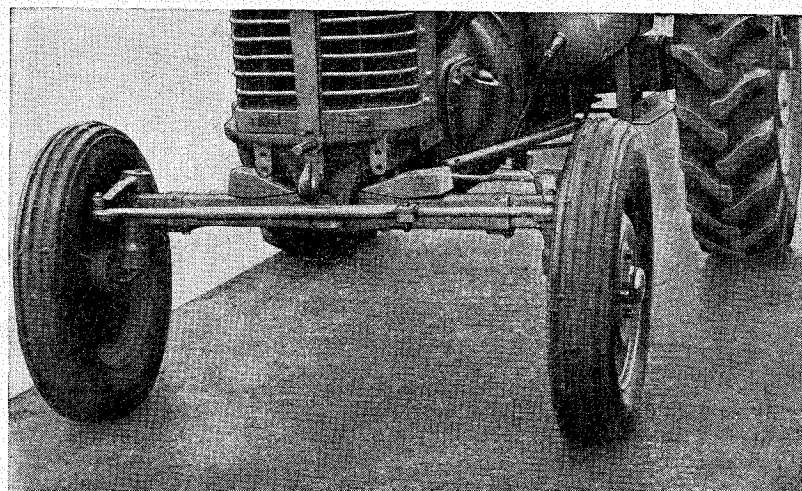

Fig. 8.
1. Apply the hand brake and support the tractor by means of the support and jacks 4428.90. Slightly raise the tractor by means of the rear jacks. Lock the front axle in position by means of two wedged wooden blocks inserted between the axle and the rubber buffers of the bracket as shown in Fig. 8.
2. Lock the front axle in position by inserting two wedged wood blocks between the axle and the buffers of the bracket (see Fig. 8).
7. Proceeding according to Fig. 8 lock in position the front axle bracket by inserting a wedged wood block between the axle and the rubber buffers of the bracket.